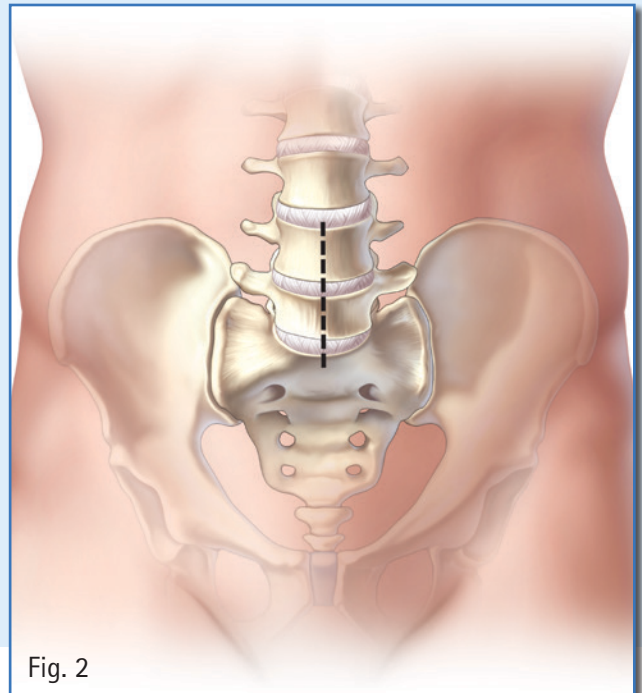

Fig. 2
- Provide the level of exposure to the implantation site that the surgeon deems necessary to perform the surgery (Fig. 2).
- Utilize anterior-posterior (AP) fluoroscopy to confirm the operative level and accurately delineate the midline.